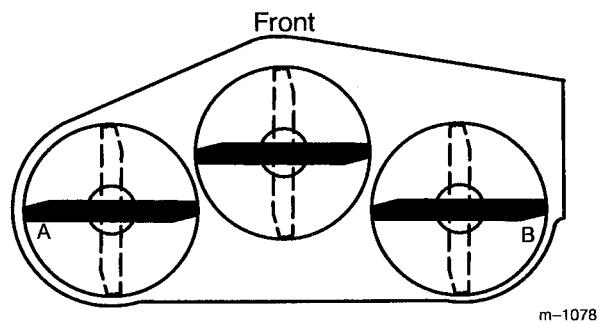

Figure 16
2. Position the blades side-to-side (Fig. 16). Measure at "A" and "B" locations (Fig. 16) from a level surface to the cutting edge of blades (Fig. 17).